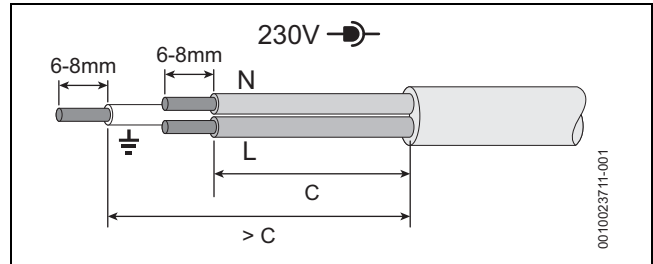

Fig. 60 Power supply (power cables) preparation
**Power supply (power cables), example → figure 60**
- ▶ Ensure the conductors (C) can reach the appropriate terminal connection and that the protective (earth) conductor is longer than the other wires.